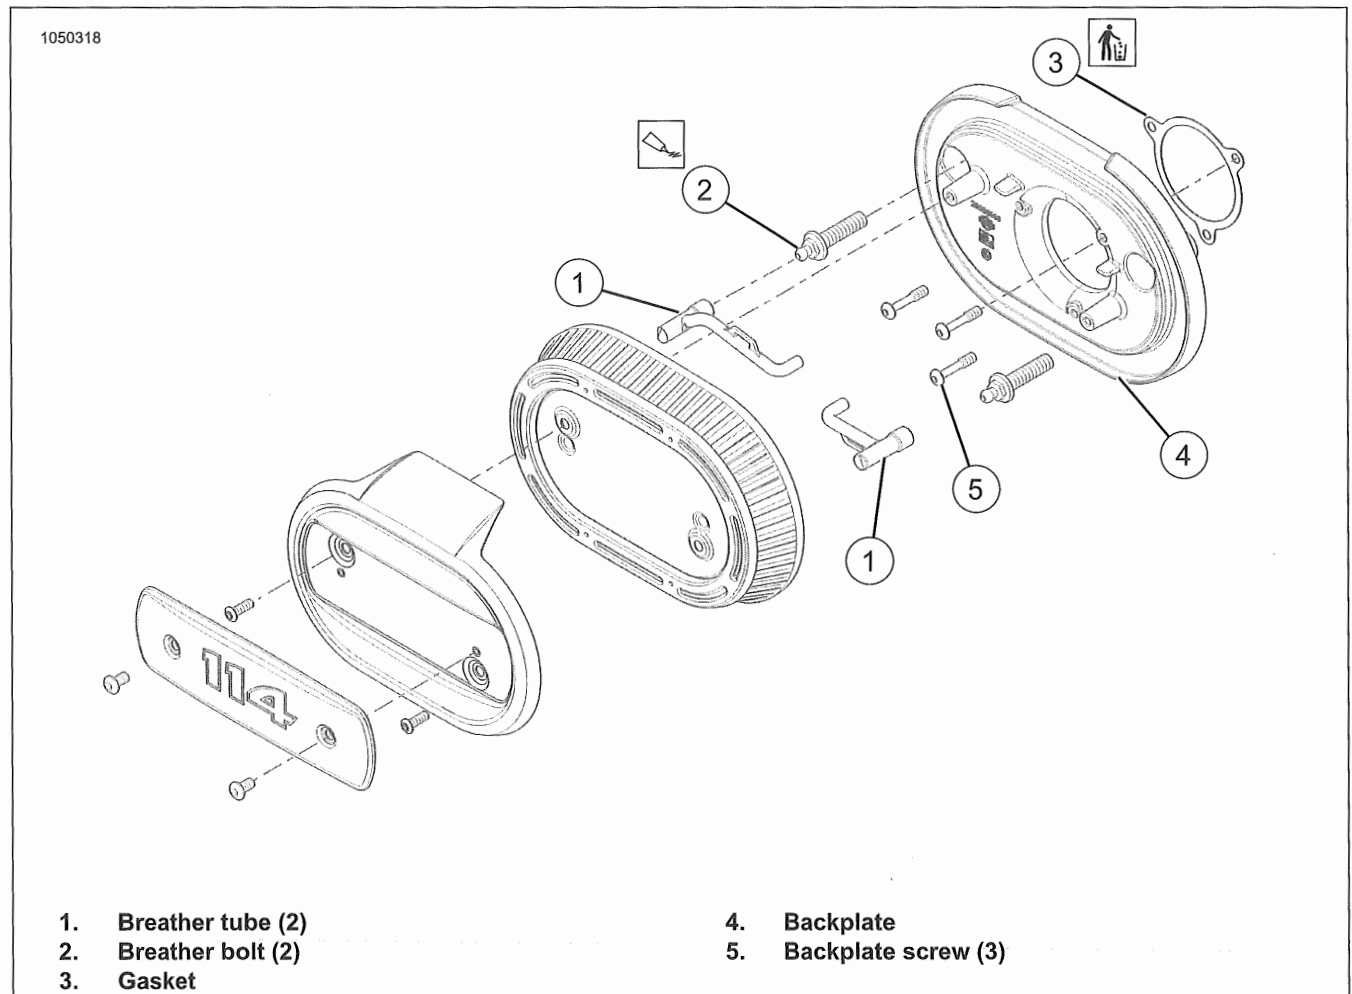

Figure 6-2. Air Cleaner Assembly
1. See Figure 6-2. Remove breather tubes (1) from breather bolts (2).
3. Remove backplate screws (5).
4. Remove backplate (4).
5. Discard gasket (3).
1. See Figure 6-2. Install **new** gasket (3) on backplate (4).
2. Apply thread sealant to threads of breather bolts (2).